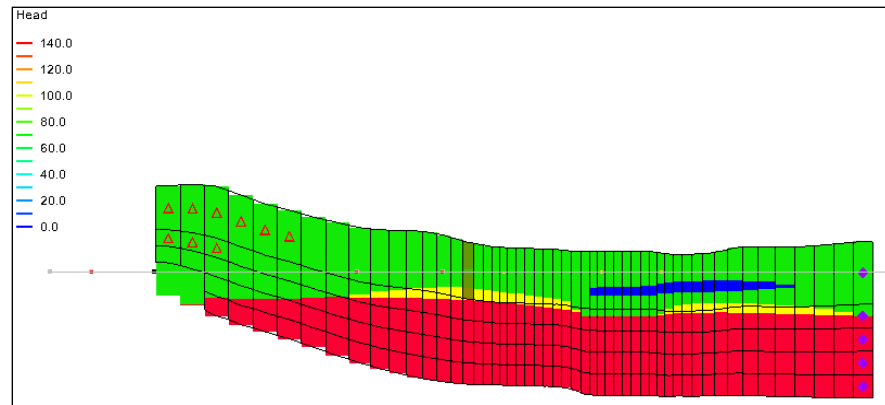

Figure 19: HUF data visible in front view
10. In the Mini-Grid Toolbar, use the arrow buttons  to view the grid along different columns (Figure 19).